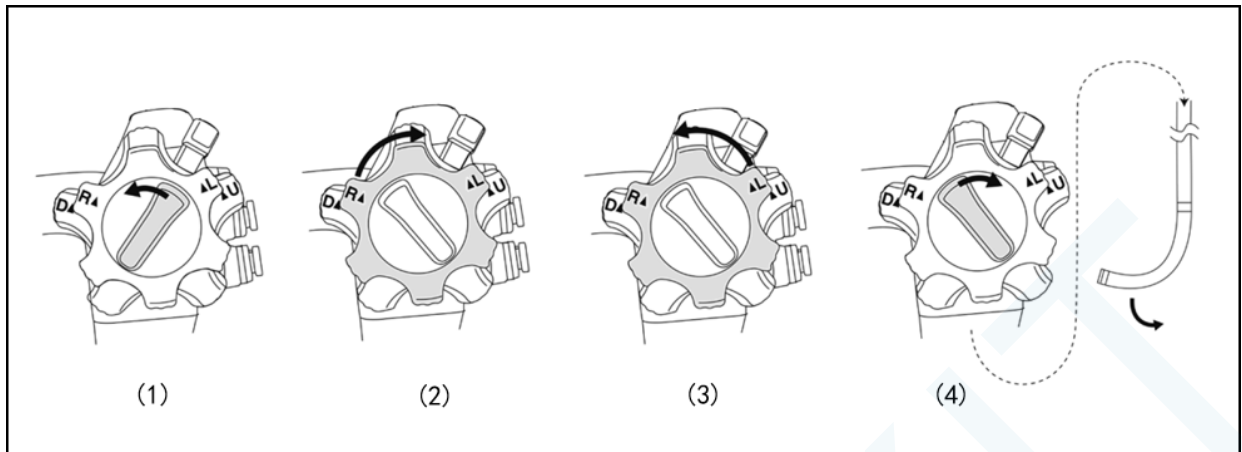

Figure 3.6
1. Rotate the R/L angulation lock in the opposite direction of the mark “F▶”. Rotate the R/L angulation control knob to the end in the direction of “R▲” or “▲L”, as shown in Figure 3.6 (1), (2), and (3).
3. When the angulation control knob is released and the R/L angulation lock is rotated in the direction of “F▶”, confirm that the bending section is in the straight state, as shown in Figure 3.6 (4).